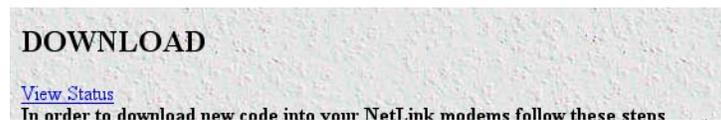

Figure 53. View Status link location
- Select the View Status hyperlink (see figure 53).